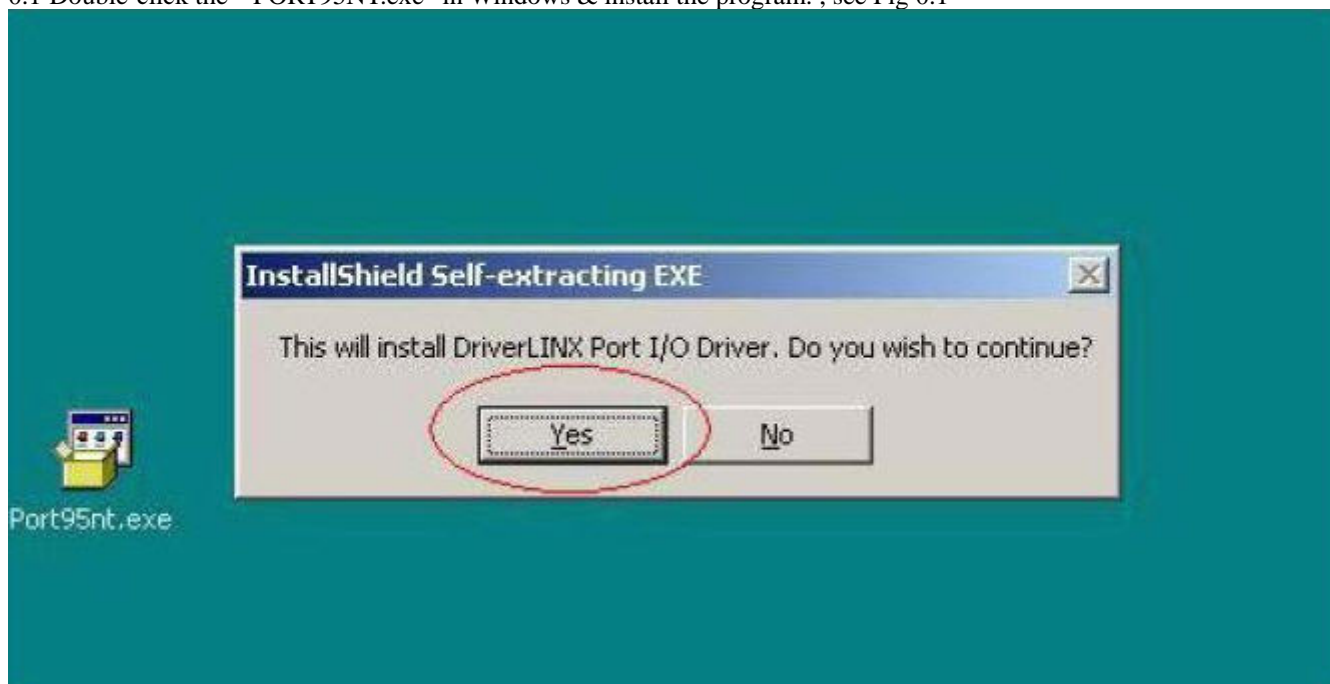

Fig 0.1
0.1 Double-click the “PORT95NT.exe” in Windows & install the program. , see Fig 0.1